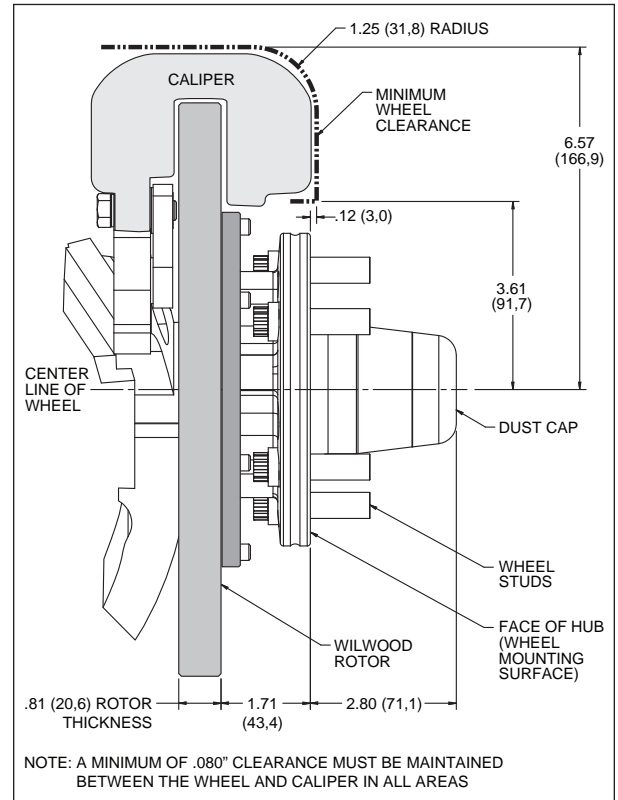

Figure 3. Wheel Clearance Diagram
- Verify wheel clearance utilizing Figure 3.